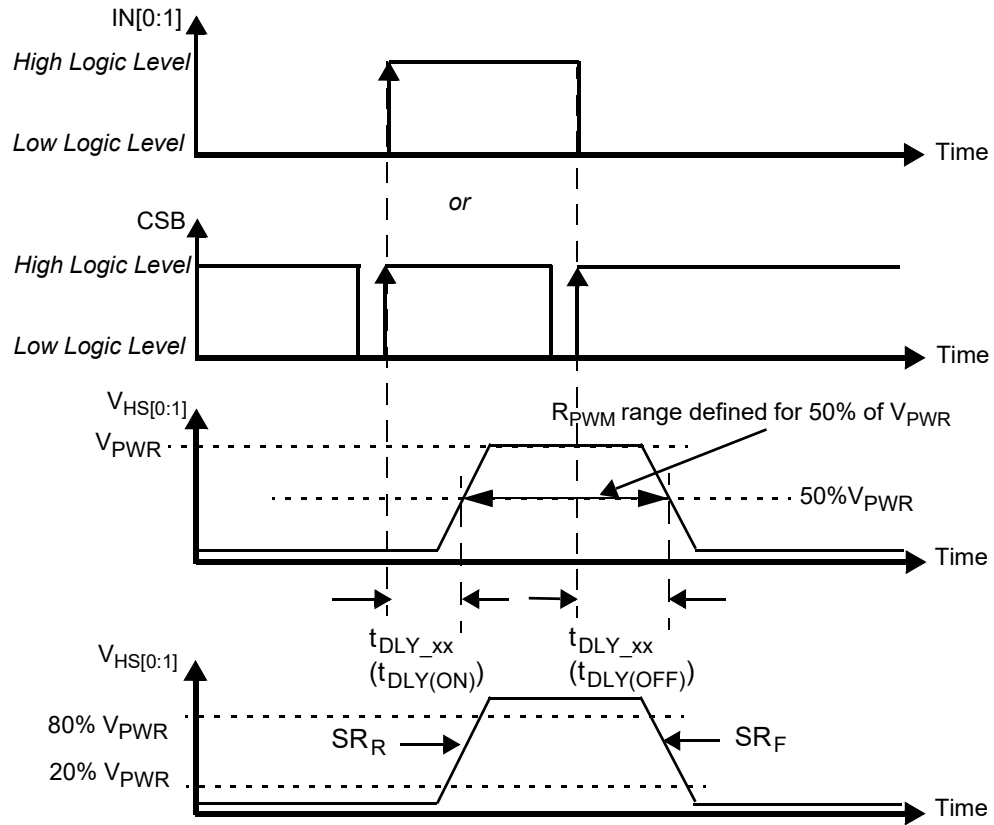

Figure 4. Output voltage slew rate and delay
30. Rising and Falling edge slew rates specified for a 20 to 80% voltage variation on a $10\ \Omega$ resistive load (see Figure 4).
32. Time required to switch off the channel after detection of overtemperature (OT), overcurrent (OC), SC or UV error (time measured between start of the negative edge on the FSB pin and the falling edge on the output voltage until $V(\text{HS}[0:1]) = 50\%$ of V_{PWR}).